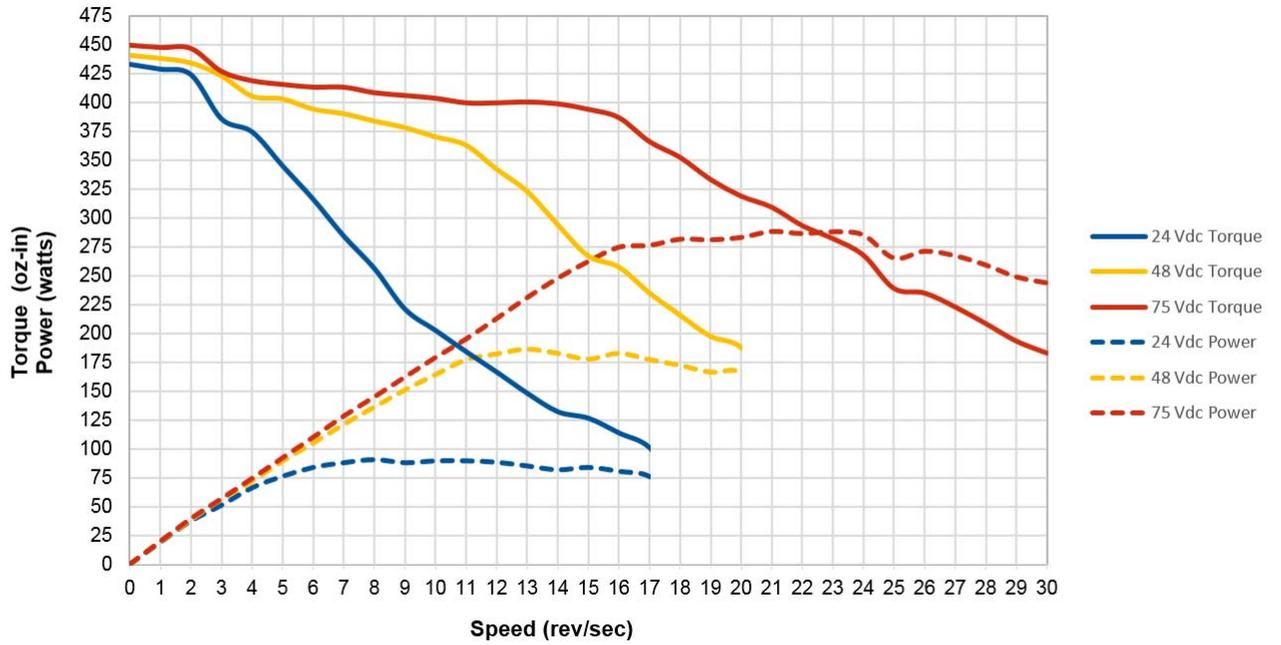

Figure R1.8 SMD34K-450 Torque and Power Curves
**Example 1:** An SMD34K-450 will be running at a maximum of 6 RPS and a 48 Vdc supply will be used. Based on the power curve in figure R1.8 on the previous page, the combinations will generate a maximum of 105 Watts. Therefore a 48 Vdc supply with a power range of 160 W to 185 W can be used in the application.